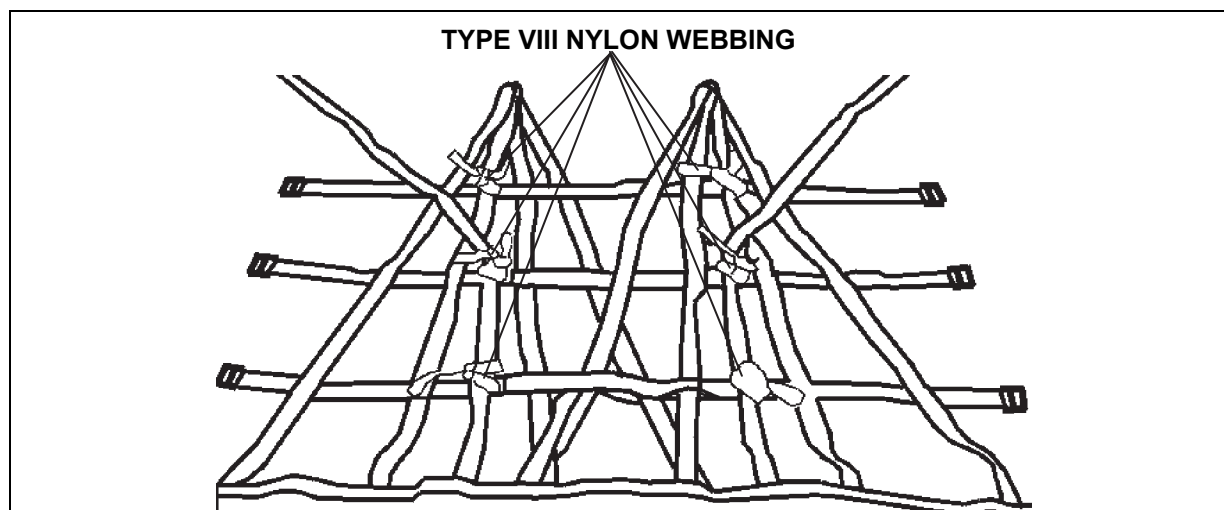

Figure 8-20. Friction Adapters Tied to Lateral Straps
- Use a length of Type VIII nylon webbing or two turns of 1-inch tubular nylon webbing to tie the friction adapters diagonally around the intersection of the short tie-down strap and the corresponding lateral strap of the other sling assembly (figure 8-20).